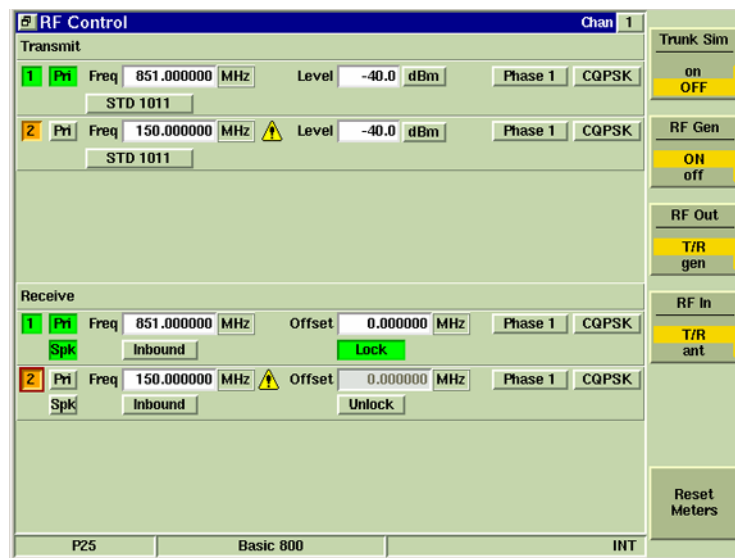

Fig. 2-3 Channel 2 - Invalid Parameter
2. If desired, set secondary channel to any valid frequency. The secondary channel only transmits when it is within ± 2.5 MHz of the center frequency (primary channel). A caution indicator is displayed if the secondary channel is set to an invalid frequency (refer to Fig. 2-3).
Fig. 2-3 shows an example of this invalid condition. In the example, Channel 1 is enabled as the primary channel and is set to 851.00 MHz. The user has attempted to enable Channel 2 as the secondary channel, with the frequency set to 150.00 MHz. The following indicators have been triggered: